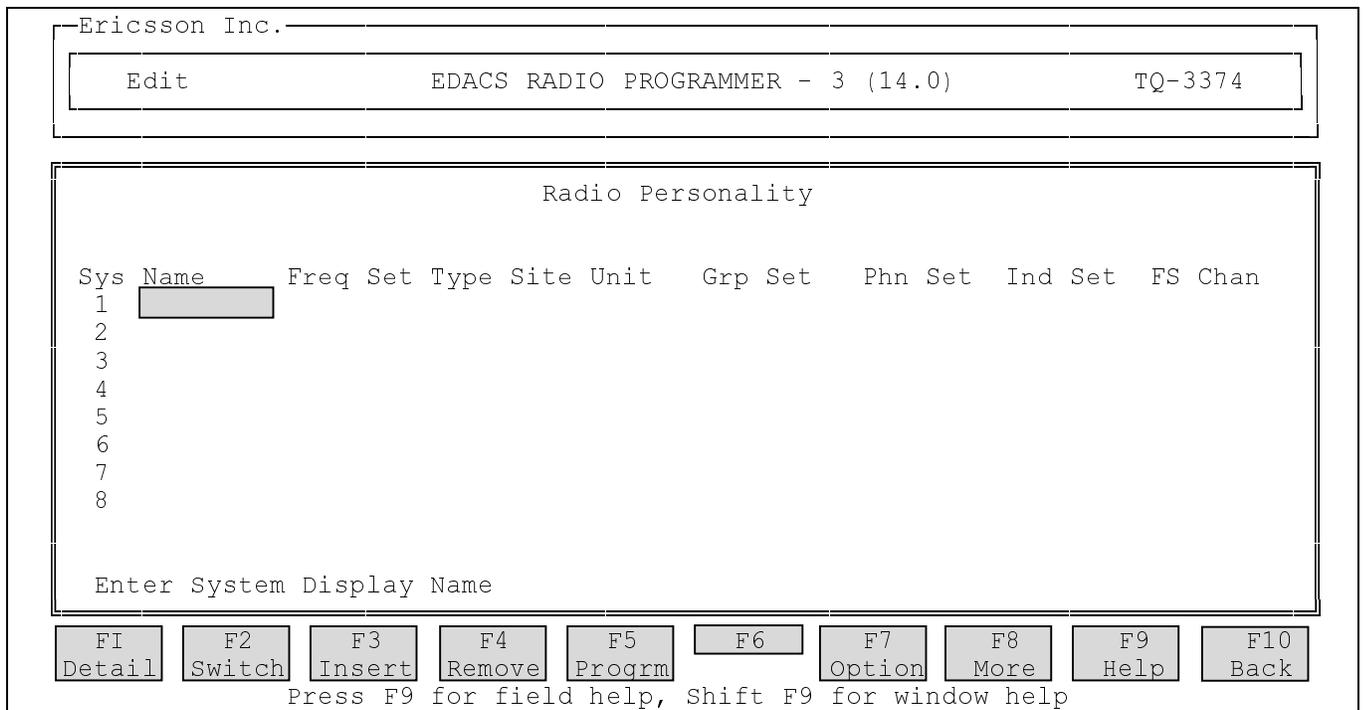

Figure 14 - Radio Personality Screen
- Press the **F1** (Yes) function key to go to the **Radio Personality** screen (Figure 14).
- In the **Radio Personality** screen (Figure 14), use the arrow keys to select (highlight) the top space in the Freq Set column.
- In the **Radio Personality** screen (Figure 14), use the arrow keys to select (highlight) the top space in the **Grp Set** column.